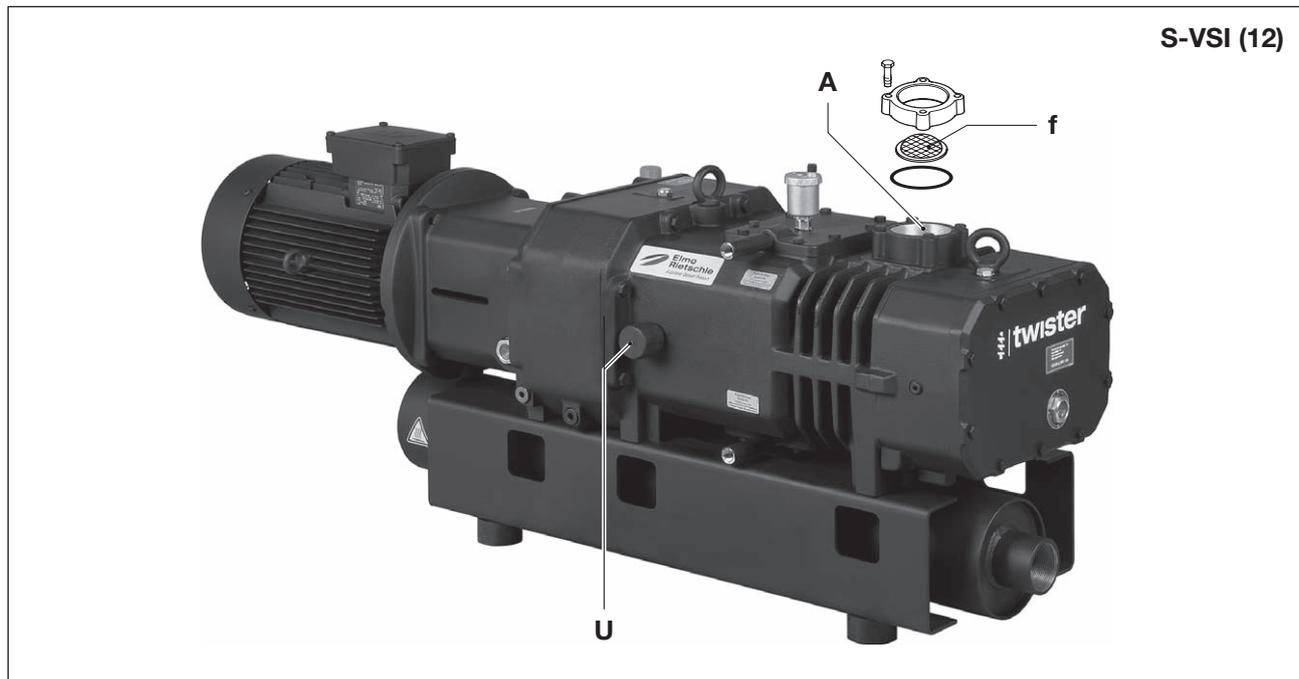

Fig. 9 Air filtering
The mesh filter (Fig. 9/f) built into the vacuum connection (Fig. 9/A) must be cleaned by washing respectively blowing it out (depending on the level of contamination of the suctioned medium) or replaced.
The pumps S-VSI (12) work with a gas ballast valve (Fig. 9/U).